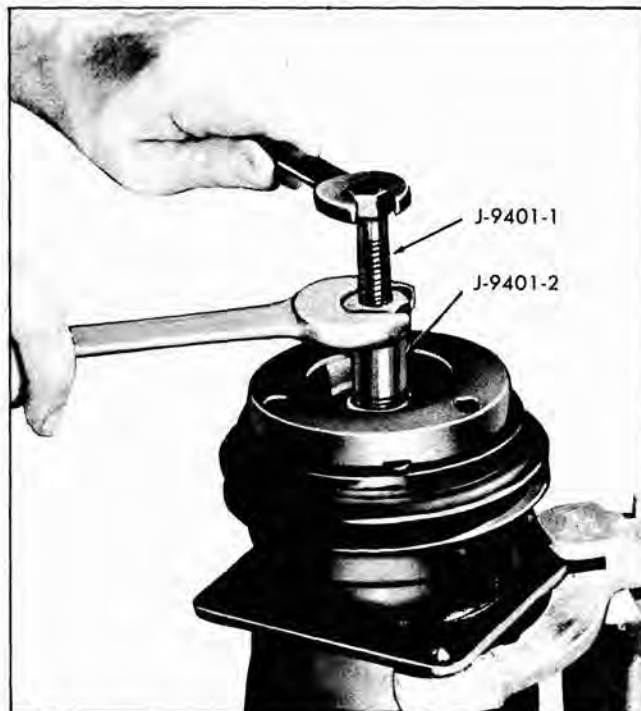

Fig. 5-50 Removing Hub and Drive Plate Assembly
2. Screw threaded hub puller J-9401 into the hub. Holding body of tool with a wrench, tighten the center screw to remove hub and drive plate assembly (Fig. 5-50). Remove J-9401 puller.